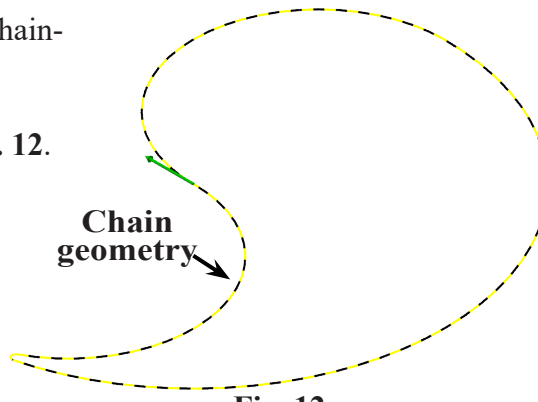

Fig. 12
Step 4. Click **any geometry**, **Fig. 12**.